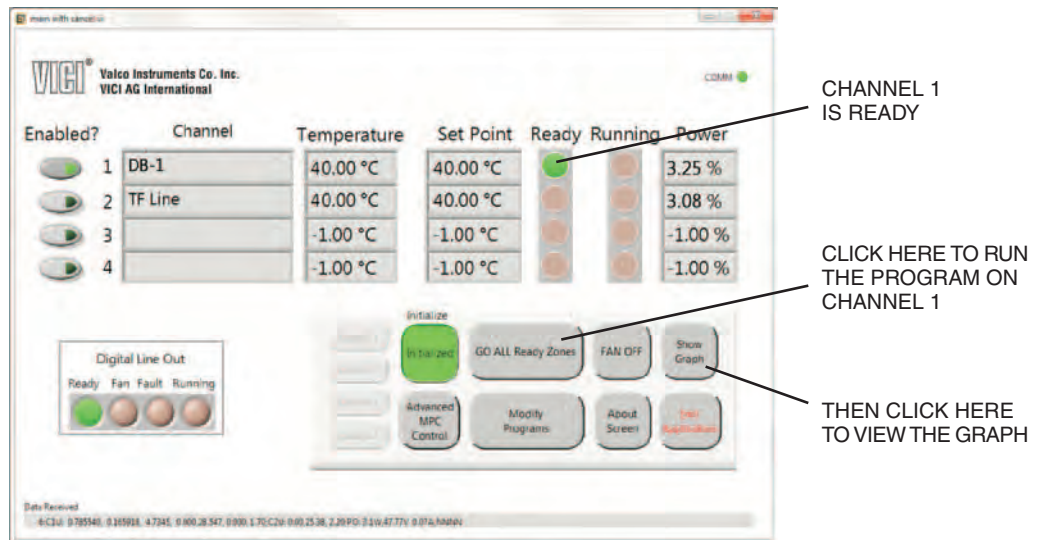

Figure 20: Ready to run Channel 1 program
4. When Channel 1 is ready (**Figure 20**), start the program for Channel 1 by clicking the "GO ALL Ready Zones" button.